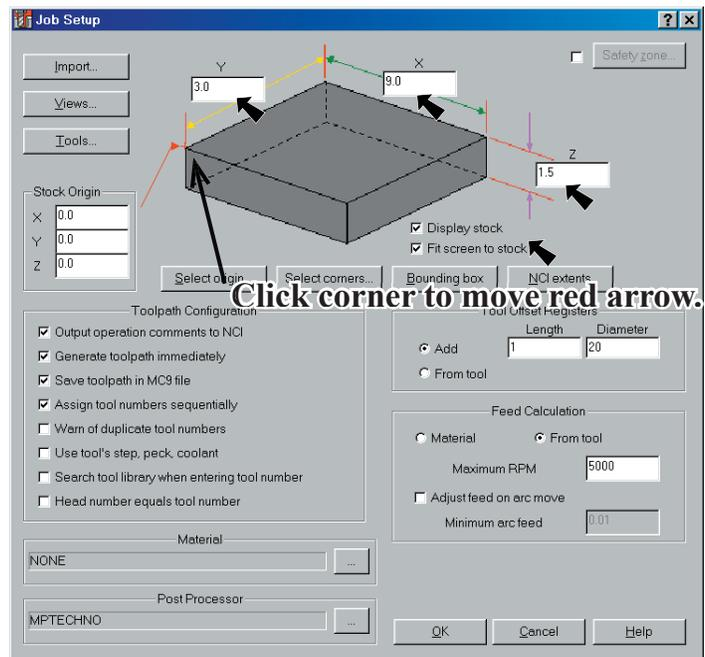

Fig. 1
Step 4. Set: **Y = 3 Fig. 1**
Step 5. Click the Display Stock check box, **Fig. 1.**